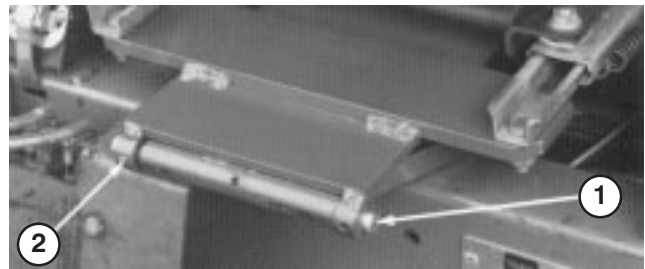

Figure 9
9. Mount seat and seat support to seat pivot bracket with pivot shaft and roll pin (Fig. 9).
- Mount seat and seat support to seat pivot bracket with pivot shaft and roll pin (Fig. 9).